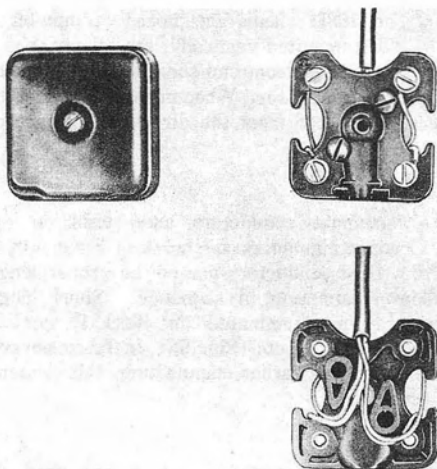

Fig. 1—42A Connecting Block
2.01 Figures 1 through 4 and Tables A and B provide identification and ordering information for connecting blocks covered in this section.
42A CONNECTING BLOCK (Fig. 1)